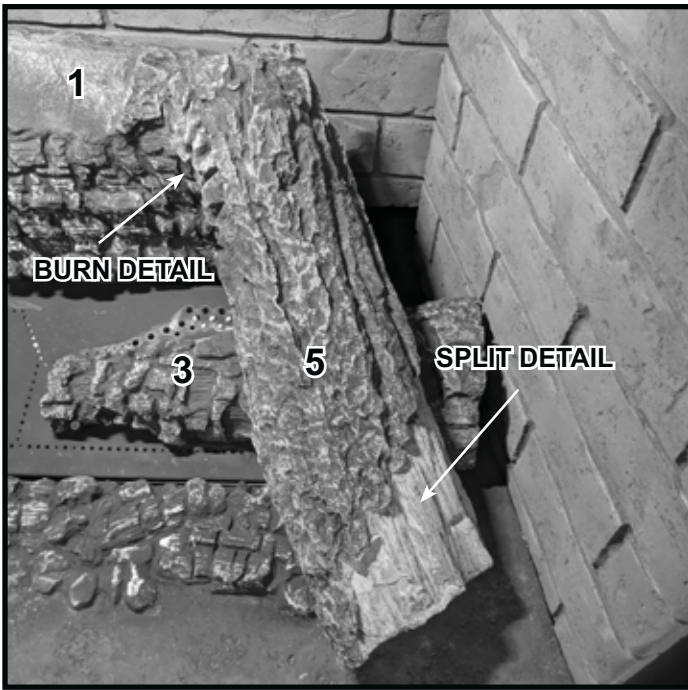
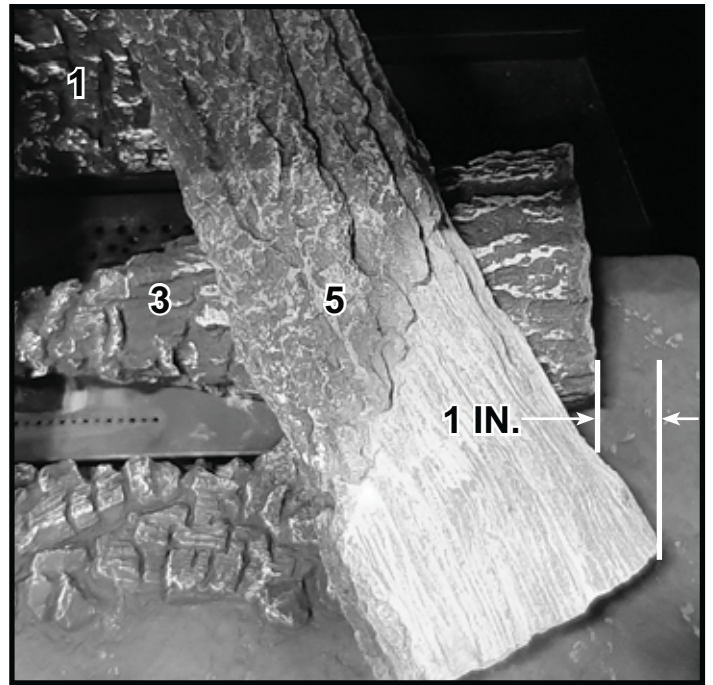

Figure 9 Place Log #5
Figure 10 Log #5 Placement Detail
**Log #5:** Place the end of Log #5 that has the burn detail on Log #1 in the flat area shown in Figure 7. The end showing the split detail is placed as shown in Figure 9 and Figure 10. When properly placed, the bottom right corner of Log #5 extends past the right end of Log #3 by one inch. See Figure 10.